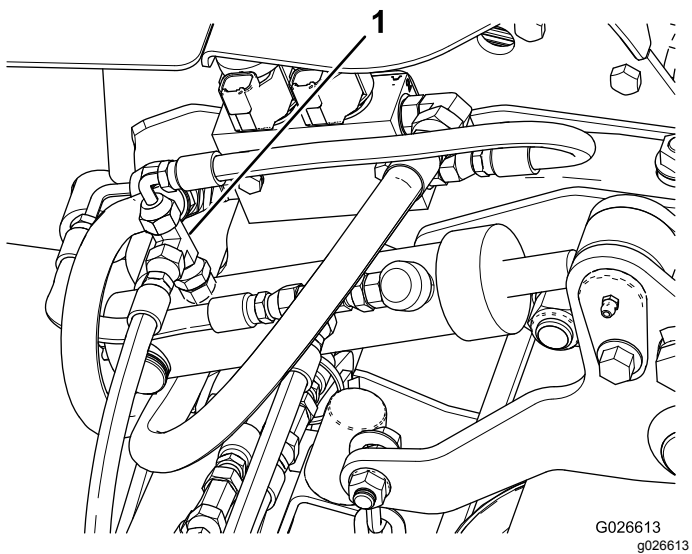

Figure 12
3. Install the tee fitting as shown in Figure 12.
4. Install the existing hose to the top of the tee fitting (Figure 12).